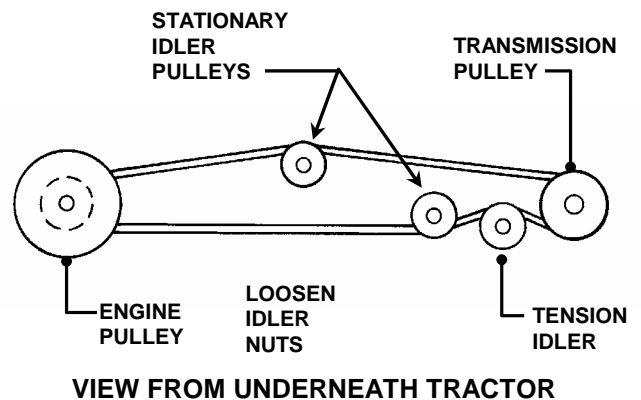

FIGURE 4.23
13. Loosen mounting nuts on traction drive belt tension and stationary idlers just enough to allow belt to clear belt guides. See Figure 4.23.